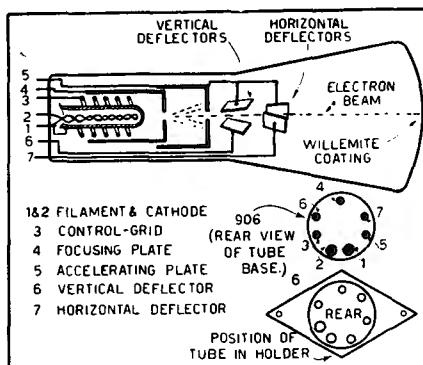

Fig. 54.
The seven elements are as follows (refer to Fig. 54): (1) filament; (2) cathode; (3) control-grid; (4) focusing plate; (5) accelerating plate; (6) vertical deflector; (7) horizontal deflector. A back view of the tube base shows where each element terminates. Numbers 1 and 2 connect to the filament which requires 2½ V. at 1.75 A. The cathode is internally connected to the filament prong No. 1.